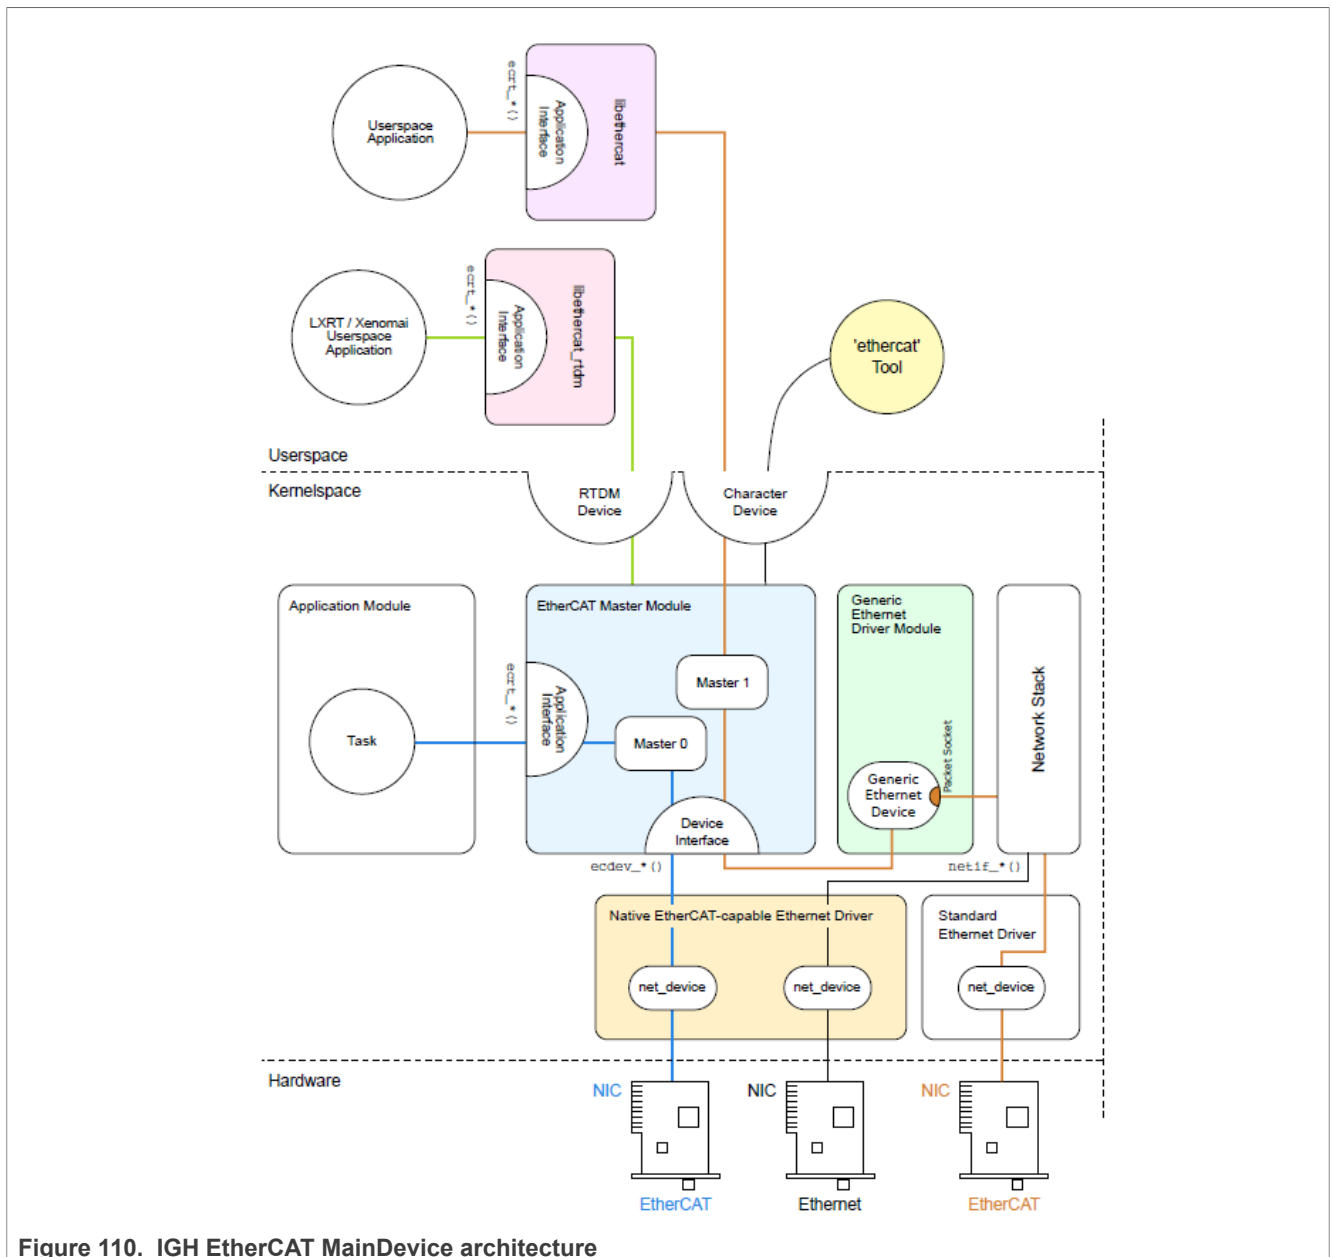

Figure 110. IGH EtherCAT MainDevice architecture
- **Application:** A program that uses the EtherCAT MainDevice (usually for cyclic exchange of process data with EtherCAT SubDevice). These programs are not part of the EtherCAT MainDevice code, but require to be generated or written by the user. An application can request a MainDevice through the application interface. If this succeeds, it has the control over the MainDevice: It can provide a bus configuration and exchange process data. Applications can be kernel modules that use the kernel application interface directly. They also include user space programs, which use the application interface via the EtherCAT library or the RTDM library. The Figure 110 shows the IGH EtherCAT MainDevice architecture.